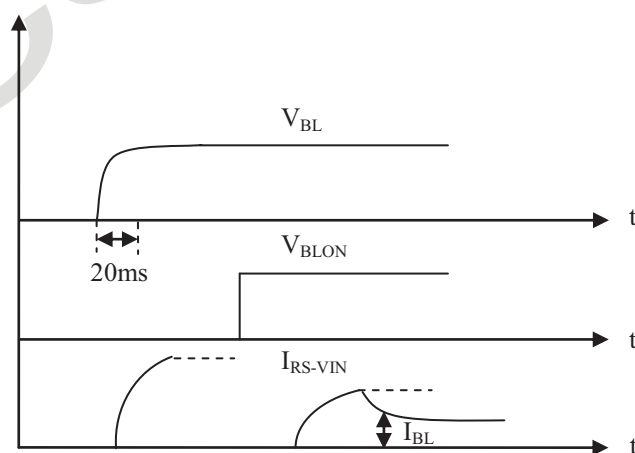

Fig. 3.4 The timing sequence diagram of inrush current measurement
(1) Dimming ratio = 100% (Max.) ($T_A = 25 \pm 5\text{ }^{\circ}\text{C}$, Turn on for 45minutes).
(2) The measurement condition: V_{BL} rising time is 20 ms. (V_{BL} from 10% ~ 90%), the sequence diagram is shown as Fig.3.4.
(3) Less than 5% dimming control is functional well and no backlight happens to shut down.
(4) Normal: 0 ~ 0.8V; Abnormal: Open collector.